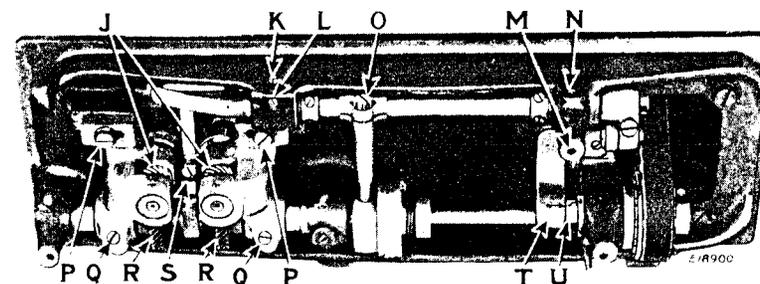
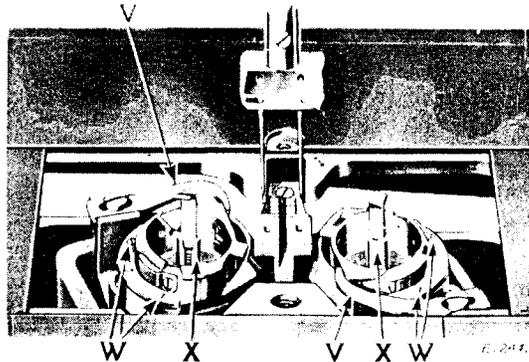
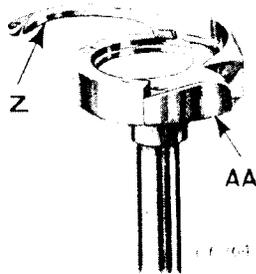

Fig. 16. Adjustments Underneath the Machine
Fig. 17
Fig. 18. Sewing Hook Removed from Machine
Turn the balance wheel over toward you until the points of the sewing hooks are at the centers of the needles. Loosen the four screws (P, P and Q, Q, Fig. 16) underneath the bed of the machine and move the hook saddles to the right or left, as may be required,
The function of the hook washer (needle guard) (AA, Fig. 18), which is attached to the bottom of the sewing hook, is to prevent the point of the hook from striking the needle if, when passing through the material, the needle is deflected toward the hook.
In case the sewing hooks are not correctly timed, turn the balance wheel over toward you until the needle bar has descended to its lowest point and has risen until the lower timing mark across the needle bar is just visible at the end of the needle bar frame. Loosen the two screws in the hub of each hook shaft gear (J, Fig. 16) and turn the hooks until the point of each hook is at the center of its needle. Then securely tighten the two set screws in each hook shaft gear (J).
Remove the four hook gib screws (W, Fig. 17) from the sewing hooks, lift off the hook gibs (Z, Fig. 18) and remove the bobbin cases (X, Fig. 17).
Remove the throat plate, feed dog, and the two bobbin case opening levers (V, Fig. 17). Then turn back the machine and loosen the four screws in the hubs of the hook shaft gears (J, Fig. 16) and place the end of a small screwdriver against the shaft end of the hooks, tapping with the palm of the hand to drive out the sewing hooks.
The bobbin case opener (V, Fig. 17) should be set so that it touches the bobbin case as lightly as possible, yet turns the bobbin case enough to make a sufficient opening for the free passage of the thread between the throat plate and the bobbin case.
The feed rock shaft is carried in split bushings which can be adjusted to take up any wear which may occur. Loosen the two lock screws (L and N, Fig. 16) and turn in the two adjusting screws (K and M, Fig. 16) until all lost motion of the rock shaft has been eliminated, then securely tighten the lock screws (L and N).
Remove the throat plate; clean the lint and dust from between the feed points and replace the throat plate; tip the machine back and turn the balance wheel towards you until the feed dog is at its highest position; loosen screw (S, Fig. 16) in the feed lifting cam fork and raise or lower the feed dog, as may be required, then retighten the screw (S).
The feed dog should be set so that when the needles are down they will be slightly in front of the center of the needle holes (toward the operator). In case the needles do not enter the holes in the feed dog correctly, loosen the pinch screw (O, Fig. 16) and adjust the feed dog as required, then securely tighten the pinch screw (O), and check the relative position of the needle and presser bars as instructed on page 18.
Owing to the fact that the sewing hooks make two revolutions to one revolution of the hook shaft, and that the feed eccentric is on the hook shaft, it is possible to have the sewing hooks correctly timed without having the feed eccentric correctly timed. To overcome this, the plate (T, Fig. 16) is attached to the underside of the bed of the machine. This plate is marked with an arrow and the collar (U, Fig. 16) on the hook shaft is also marked with an arrow.
After replacing the belt over the arm shaft, replace the arm shaft bearing and securely fasten it in position by the screw (B, Fig. 3) and the two set screws in the inner race; replace the balance wheel, place the belt on the upper pulley, and turn the balance wheel over toward you until the thread take-up lever is at its highest point. Then turn the hook shaft with the fingers until the arrow on the collar (U, Fig. 16) is directly in line with the arrow on the plate (T). Now, without disturbing either the arm shaft or the hook shaft, slip the belt over the lower pulley. The feed will then be correctly timed with the needle bar.